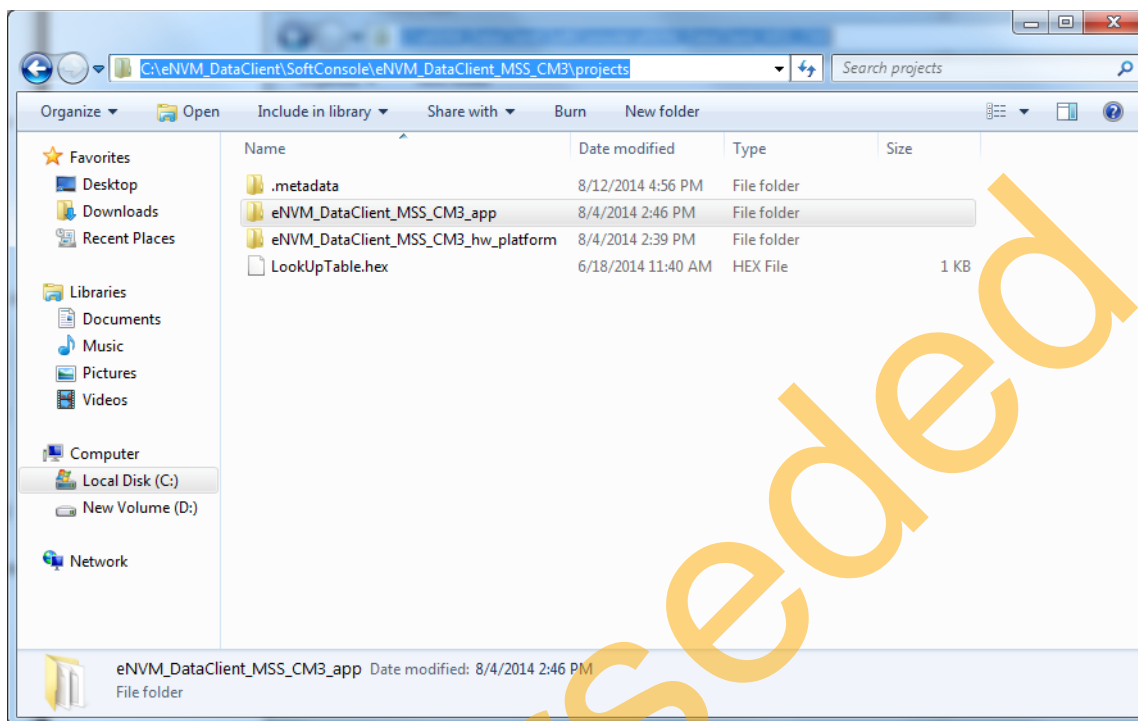
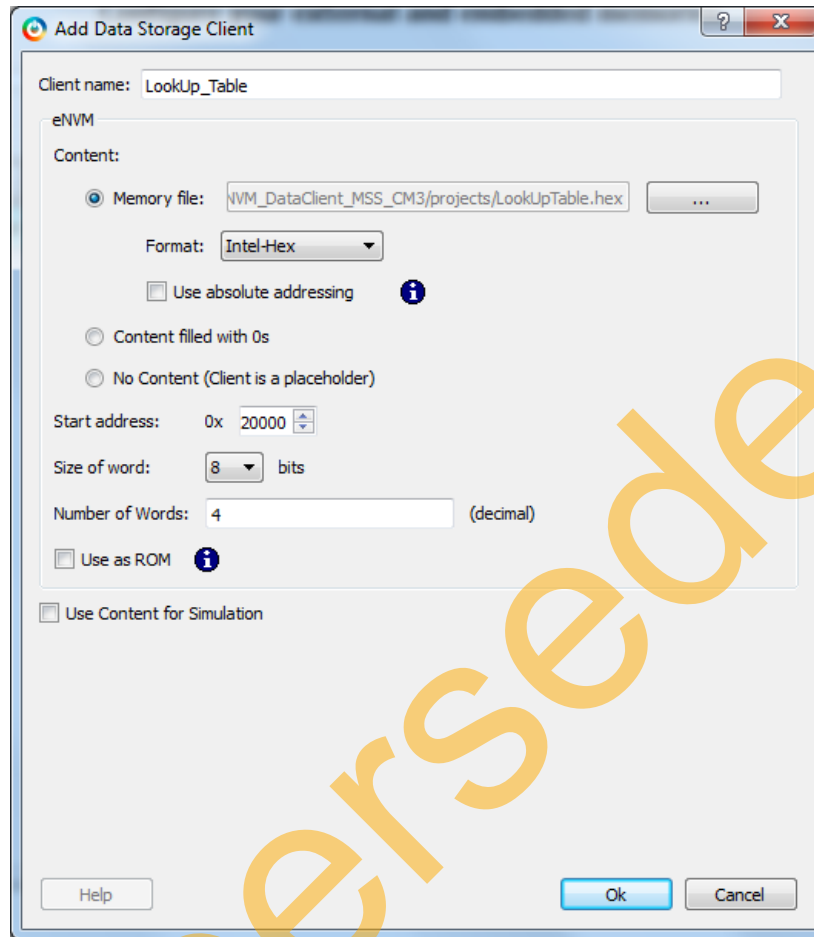

Figure 18 • LookUpTable.hex File
Figure 19 • Add Data Storage Client Window
7. Add **LookUpTable.hex** file to eNVM Data Storage Client as shown in Figure 18 on page 18 and Figure 19 on page 19.
8. Select the Start address as 20000 in the **Add Data Storage Client** window (see Figure 19). This is the address in eNVM, where LookUpTable.hex file is stored. Click **Ok**.